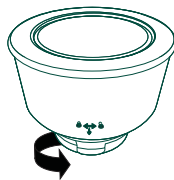

Figure 1
2. Remove the bean hopper by rotating counterclockwise to unlock from the machine (figure 1).
7. Place grind setting to the **"Fine"** (0) and then Turn the machine ON by pressing the **Power** button.